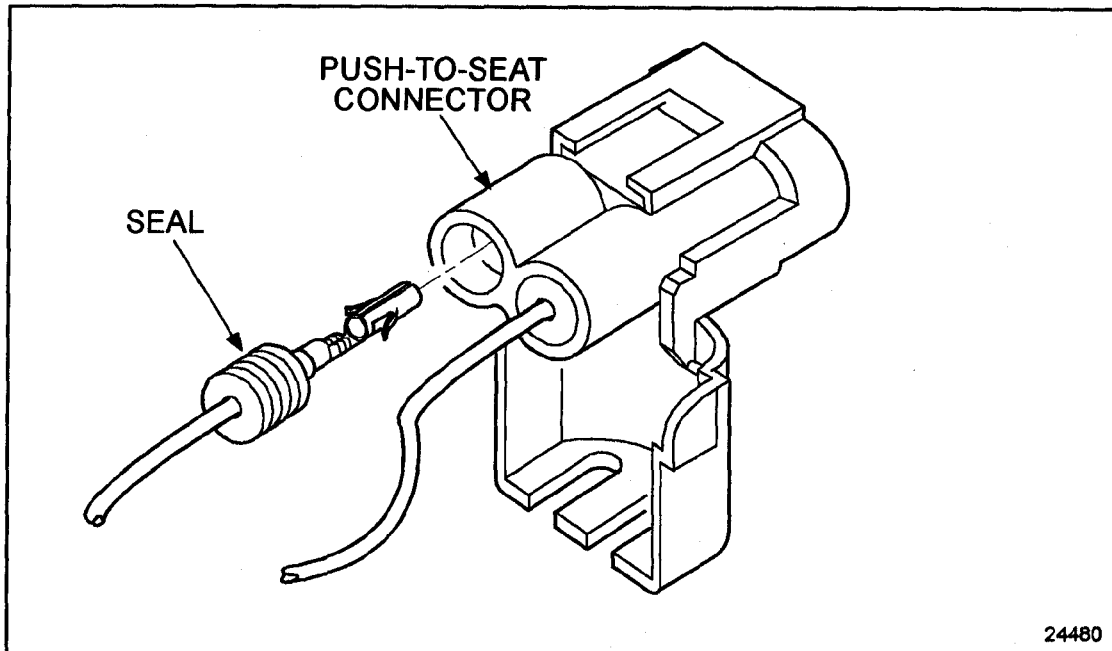

Figure 8-39 **Inserting Terminal in Connector**
8. Push the crimped terminal into the connector until it clicks into place. Gently tug on the cable to make sure it is secure. See Figure 8-39.